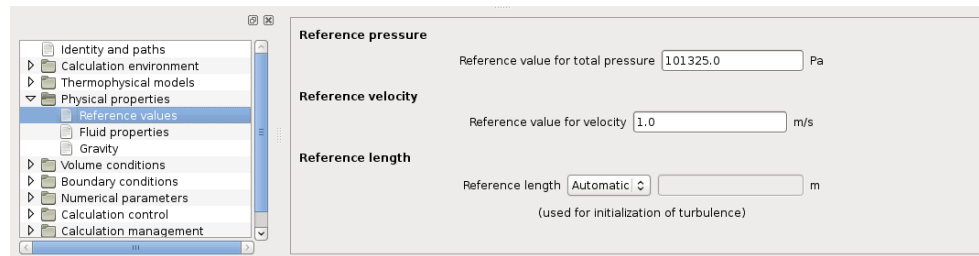

Figure 15: Setting of the reference values for pressure, velocity and length
- Physical properties: reference pressure, velocity and length, fluid properties (density, viscosity, thermal conductivity, specific heat and scalar diffusivity), gravity, see Figure 15 to Figure 17. If non-constant values are used for the fluid properties, and if the GUI is not used, the `cs_user_physical_properties` file must be used, see § 6.5.1.